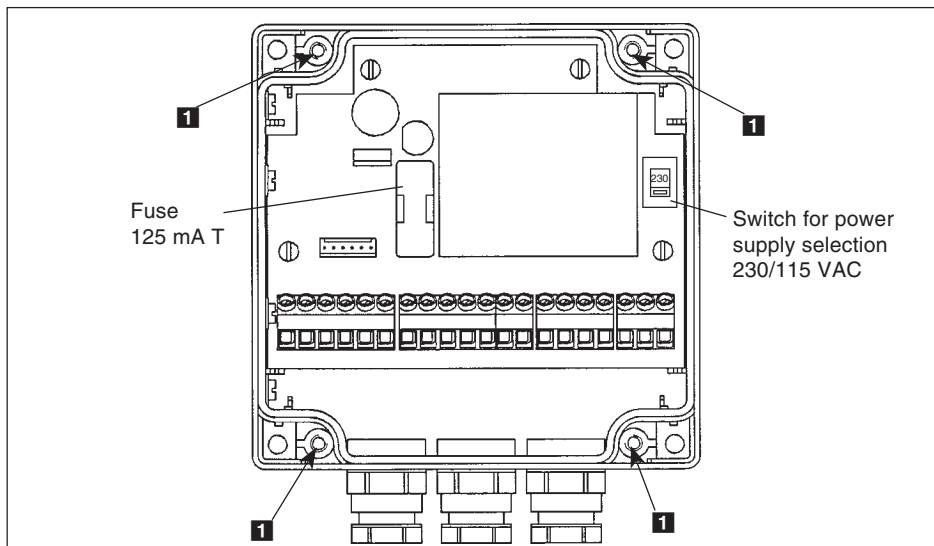

Fig. 3.4 Installation wall-mount version
Wall-mount version (see fig. 3.4)
**Warning:** Check position of power supply selection switch (see fig. 3.4) before starting the device.
**Note:** When current output is used, remove the strap. A switch enables to select the power supply between 230 and 115 VAC (see fig. 3.4).
**Note:** For wiring see also § 3.4.2 When current output is used, remove the strap. A switch enables to select the power supply between 230 and 115 VAC (see fig. 3.4).